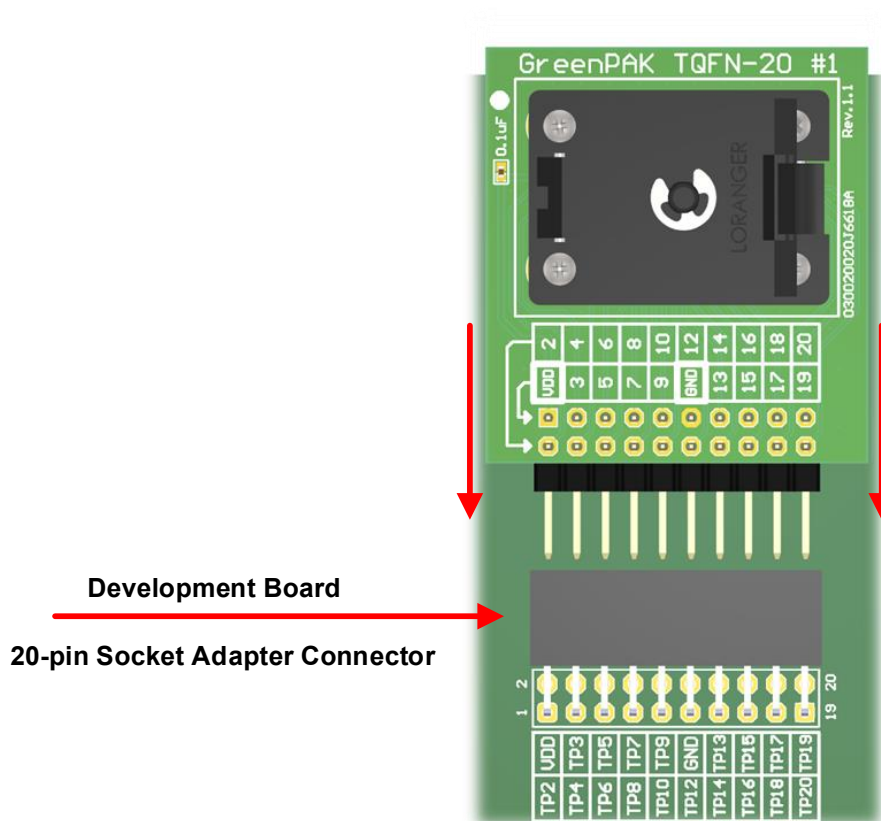

Figure 5. Socket Adapter Connection to Development Board 20-pin Adapter Connector
1. TP Name in Table 1 reflects a 20-pin connector test point name of the selected development platform (see Figure 5).
3. Insert the SA into the 20-pin connector, as shown in Figure 5.